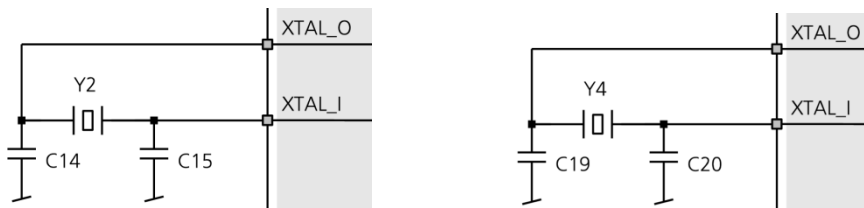
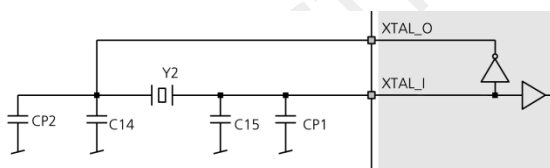

Figure 9: Crystal circuits using a 19pF crystal or a 7pF crystal
Figure 10: Crystal oscillator and parasitic capacitors
The actual frequency of a crystal oscillator depends on its load capacitance which is formed by the two capacitors C14 and C15 or C19 and C20 shown in Figure 9. Each capacitor has an additional parasitic capacitance to GND in parallel formed by the circuit traces on the printed circuit board and the capacitance of the UBX-M8030 input- and output (XTAL_I and XTAL_O). The crystal oscillator will oscillate on its specified frequency only if the crystal “sees” the specified load capacitance into the oscillator circuit (item 2.1 in Table 15). Figure 10 shows the crystal oscillator including its parasitic capacitors. Generally C14 and C15 should be equal in size, but sometimes one or two E-series steps difference in value may be required to approach the desired load capacitance. In that case the higher value capacitor should be connected at XTAL_I (C15).